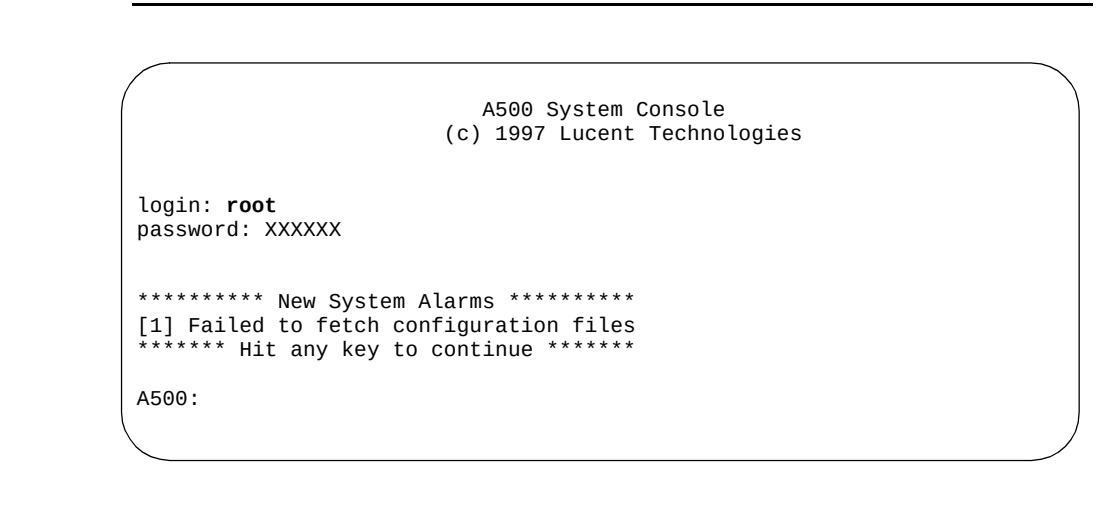

Figure 1-31. A500 login screen
- Can you log into the A500 console using the diagnostic account **root** from the local console terminal or through telnet? (See Figure 1-31 below.)